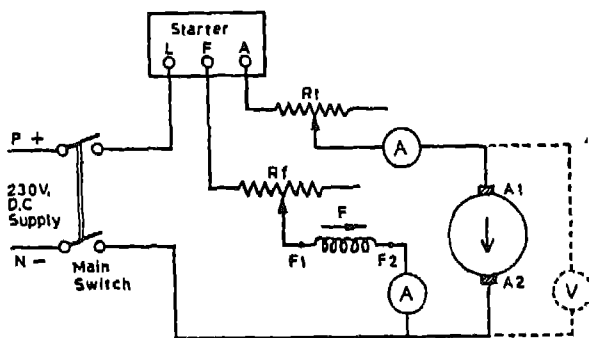

Fig 20.1 D C Shunt motor speed control
- (i) Connect the motor as shown in Fig. 20.1.